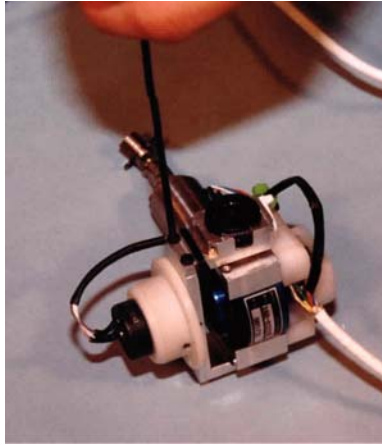

Figure 10.7- Yoke arm bolt location
6. Locate the left DGSP unit (T1DPM000). Remove the two #4-40 x 3/8" SHCS {3/32} that hold the Right Yoke Arm (T1DPM213) to the Left Yoke Arm (T1DPM212) and Gimbal Assembly (T1DPM200), as shown in **Figure 10.7**.